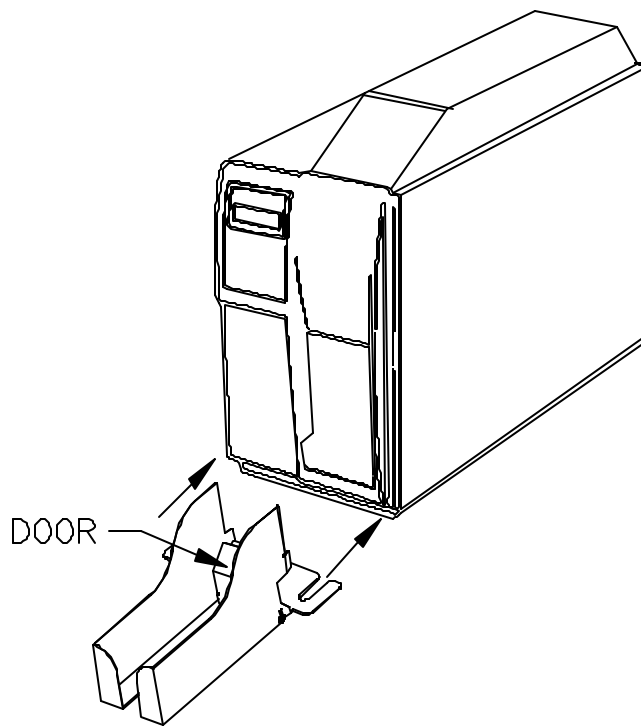

Fig. 6
11. Slide the Expanded Output Bin fully underneath the unit (Fig. 6). *Note : Make sure feet under printer are aligned with the slots on the Output Bin and continue to slide until feet bottom out on slots. 'Squeeze in' the tall sides of metal Output Bin to allow it to fit inside the mouth of the front bezel.*